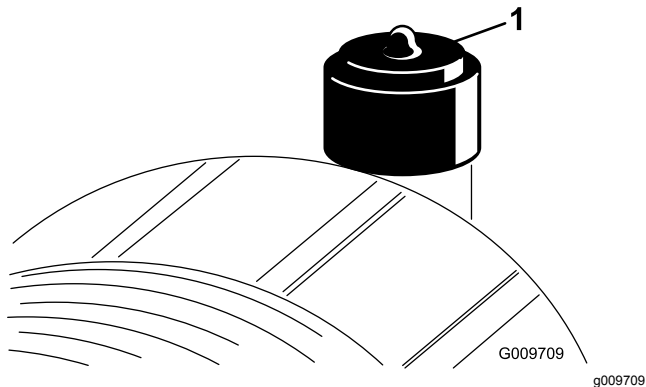

Figure 67
Service the air-cleaner filter only when the service indicator requires it (Figure 67). Changing the air filter before it is necessary only increases the chance of dirt entering the engine when you remove the filter.
2. Reset the indicator (Figure 67) if it shows red.